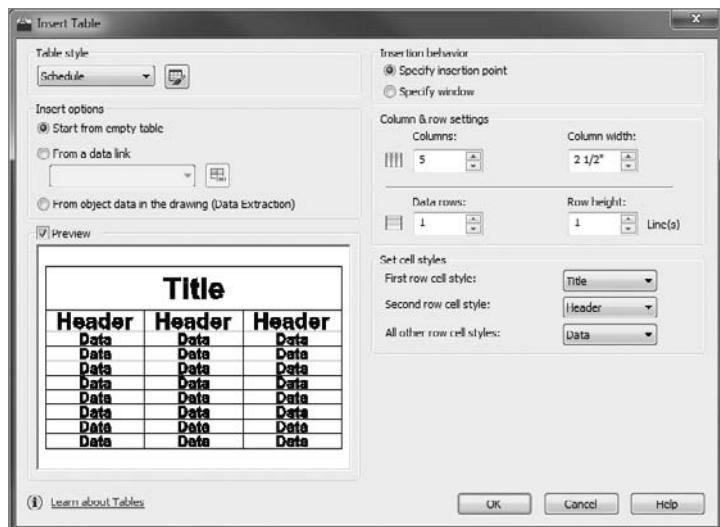

FIGURE 9.64 The Insert Table dialog box
2. In the Annotate tab's Tables panel, click the Table button to open the Insert Table dialog box (see Figure 9.64).